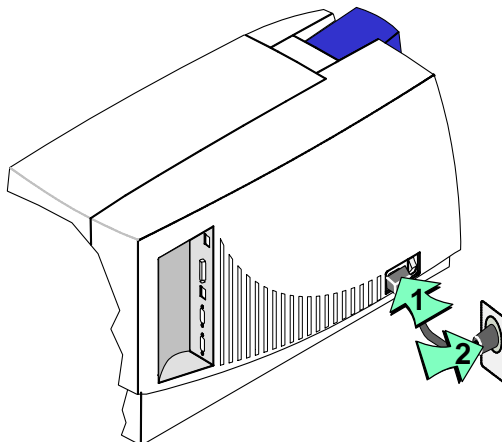

Figure 7-9: Connect the power cord
- 1 Attach the power cord to the power receptacle on the back of the printer (step 1 in Figure 7-9).
- 2 Plug the other end of the power cord into a single-phase, 3-wire grounded receptacle with 90-130V AC or 195-254V AC at 50 or 60 Hz (step 2 in Figure 7-9).